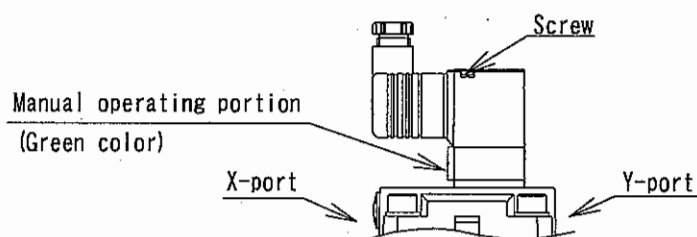

Figure 5-2
- Put the pilot solenoid valve manual operation portion (green color) onto the cylinder as directed in Figure 5-2.